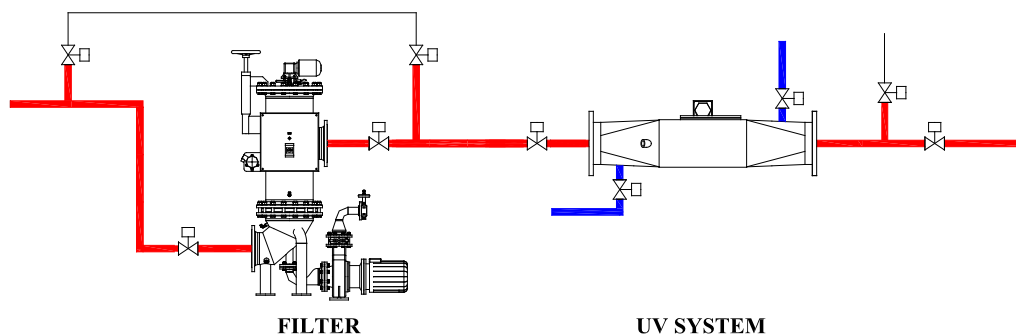

Figure 5. Ballasting mode ON
Once pre-heating of UV lamp is complete, the BioViolet™ controller opens the valves from the front side of the filter to rear end of the UV system, as shown in Figure 5. Here, the test facility controller executes “Ballasting (T) Mode” by operating ballast pump.